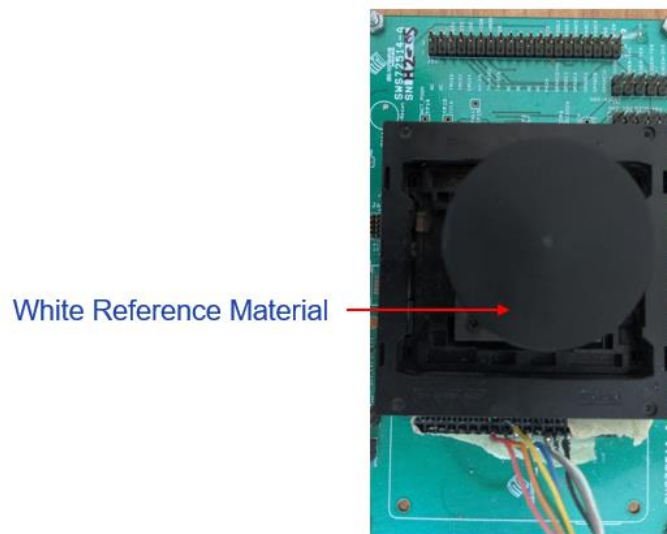

Figure 12: Testing Setup with white reference material
7. Kindly place the Background tile with white response as shown in Figure 12, then press “Done”.